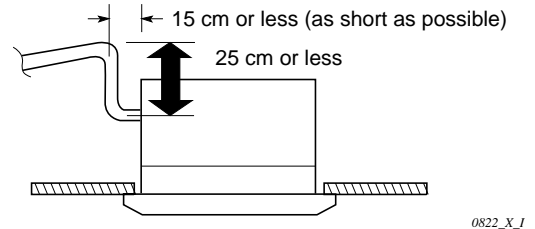

Fig. 3-14
- If it is necessary to increase the height of the drain pipe somewhat, the portion directly after the connection port can be raised a maximum of 25 cm. Do not raise it any higher than 25 cm, as this could result in water leaks. (Fig. 3-14)